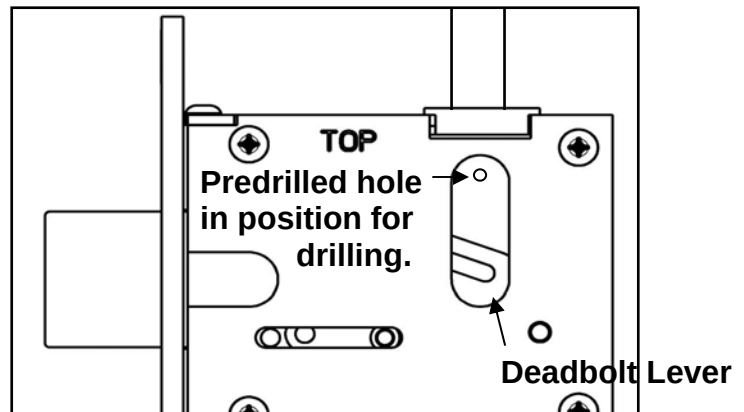

Fig. 2
- To prepare for drilling actuate the deadbolt lever to project the Deadbolt. This will allow better access to the predrilled hole and avoid damage to the linkage. (See Fig. 2)